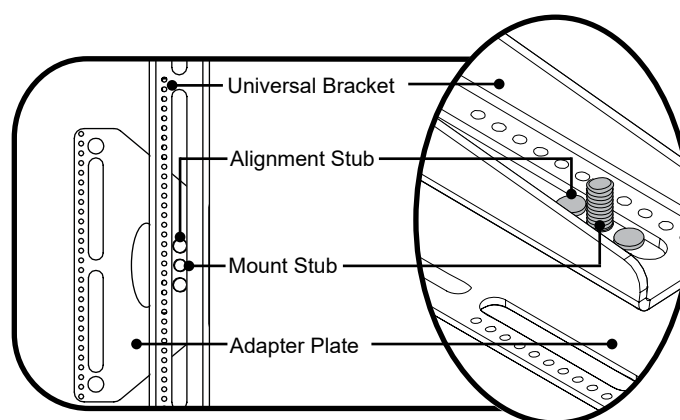

Figure 2
1. Attach the extension adapter plates to the flat panel using four mounting screws and four (4) Griplate™ washers. Do not overtighten.
3. Ensure the alignment stubs on each adapter plate are correctly seated in the universal bracket slots to maintain alignment and level during installation. See Figure 2.
4. Place one (1) 5/16" washer and one (1) M8 lock nut on each threaded mount stud.